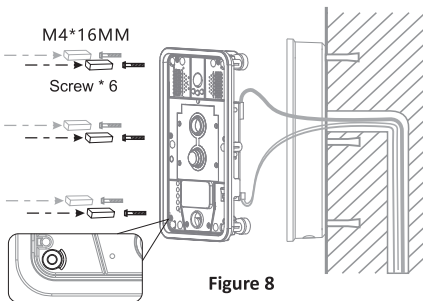

Figure 8
- A. After locking the 6 screws into the corresponding position of the plastic housing, the 6 conductive sponges is loaded into a screw hole. As shown in Fig. 8, the rear shell is locked.